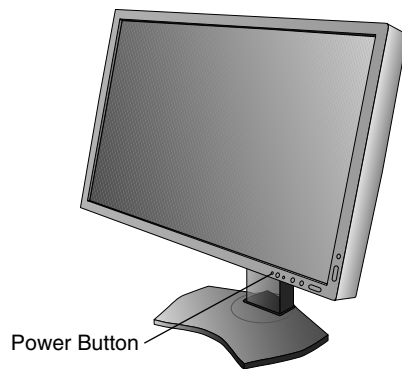

Figure E.1
9. Turn on the monitor with the front power button (**Figure E.1**) and the computer.